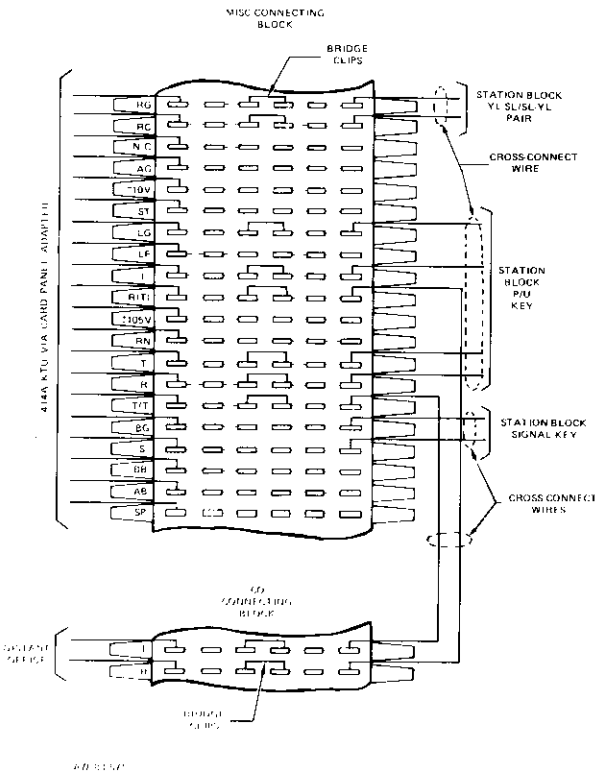

Figure 21: Connecting Details, 414A KTU to Station and Distant Office
(f) On the MISC connecting block, connect the terminals across from terminals R(T) and T(T) to the CO connecting block for connection to the distant office. Connection details are shown in Figure 21.
(g) On the station connecting block for the assigned telephone, locate the terminals for the selected line pickup key. Connect the T, R, LG, and L terminals to the terminals across from the corresponding terminals on the MISC connecting block. Refer to Figure 21.